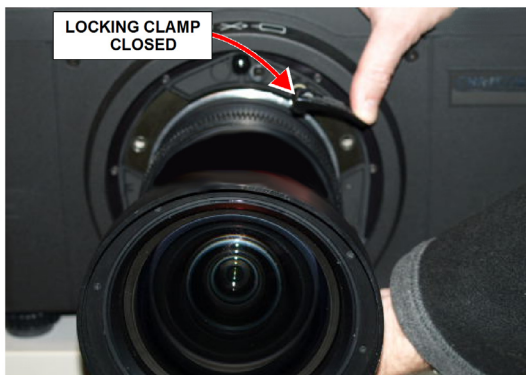

FIGURE 2-3
- While holding the lens flat against the lens mount, rotate the lens clamp clockwise to lock the lens assembly in place. See Figure 2-3 & Figure 2-4.